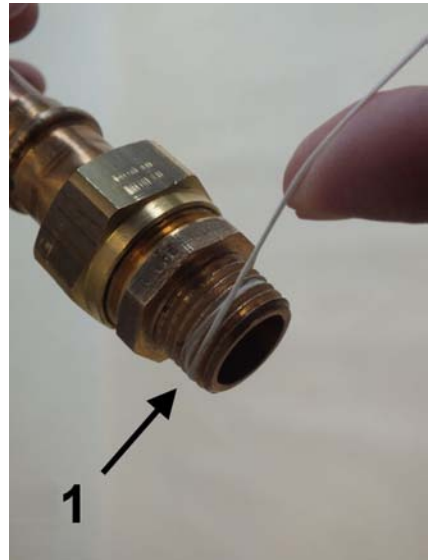

Fig. 9: Apply sealing thread
2. → Apply sealing thread (Fig. 9/1) to the napped area in the threaded direction. Observe the quantity recommended by the sealant manufacturer.